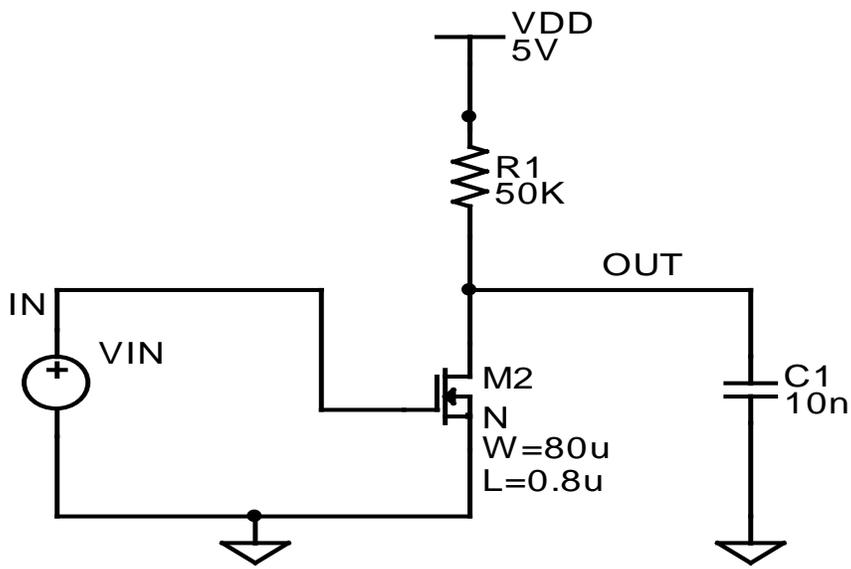

Fig. 1. Common source inverting amplifier.
1. Perform a design report comparing a MOS inverting amplifier in Figure 1 to one where a BJT substitutes for the MOSFET. The Vswitch substitution is optional. Note that for a BJT, there can be a DC convergence issue in the DC sweep if V_{in} is too high. Either restrict V_{in} or add a 1 ohm resistor between V_{in} and the base input. Compare and contrast gain and bandwidth. For the MOS case, this is known as a common source amplifier, while for the BJT, this is a common emitter amplifier.